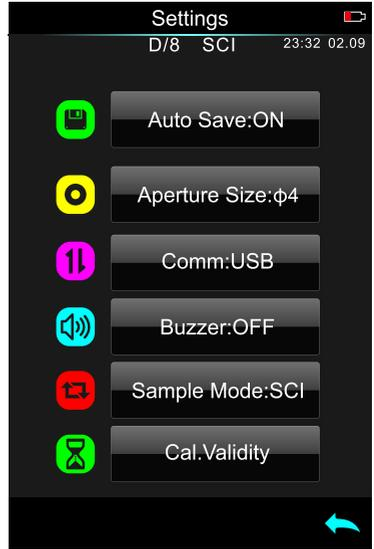

Figure 48 System Settings
In the main menu, click "System Setting" as shown in Figure 48.
Step 2: Optical lens position switch. As shown in Figure 48, if it is Φ 4mm aperture, it is required to switch to SAV; if it is Φ 8mm aperture, switch to MAV.